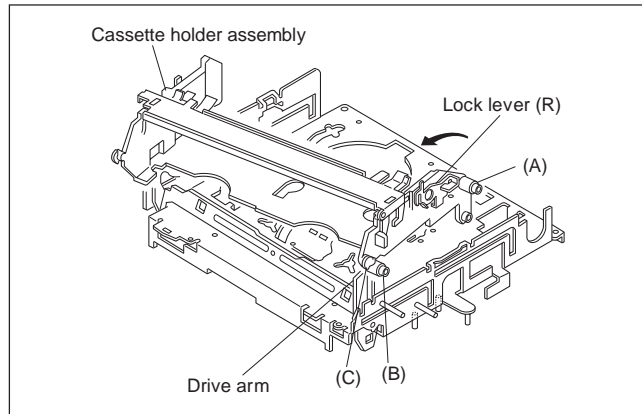

Fig.3-2-3g
- (3) Hold the drive arm upright and fit the leg (C) on the right side of the cassette holder assembly into the groove. (See Fig.3-2-3g.)
- (4) While swinging the lock lever (R) of the cassette holder assembly toward the front, put the legs (A) and (B) into the rail. (See Fig.3-2-3g.)